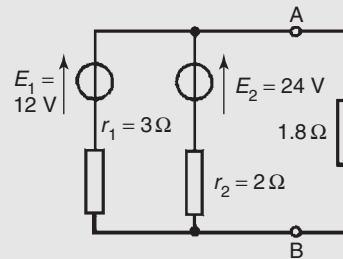

Figure 13.72
**Problem 20.** (a) Convert the circuit to the left of terminals AB in Fig. 13.72 to an equivalent Thévenin circuit by initially converting to a Norton equivalent circuit. (b) Determine the current flowing in the  $1.8 \Omega$  resistor.
- (a) For the branch containing the 12 V source, converting to a Norton equivalent circuit gives  $I_{SC} = 12/3 = 4 \text{ A}$  and  $r_1 = 3 \Omega$ . For the branch containing the 24 V source, converting to a Norton equivalent circuit gives  $I_{SC2} = 24/2 = 12 \text{ A}$  and  $r_2 = 2 \Omega$ . Thus Fig. 13.73(a) shows a network equivalent to Fig. 13.72